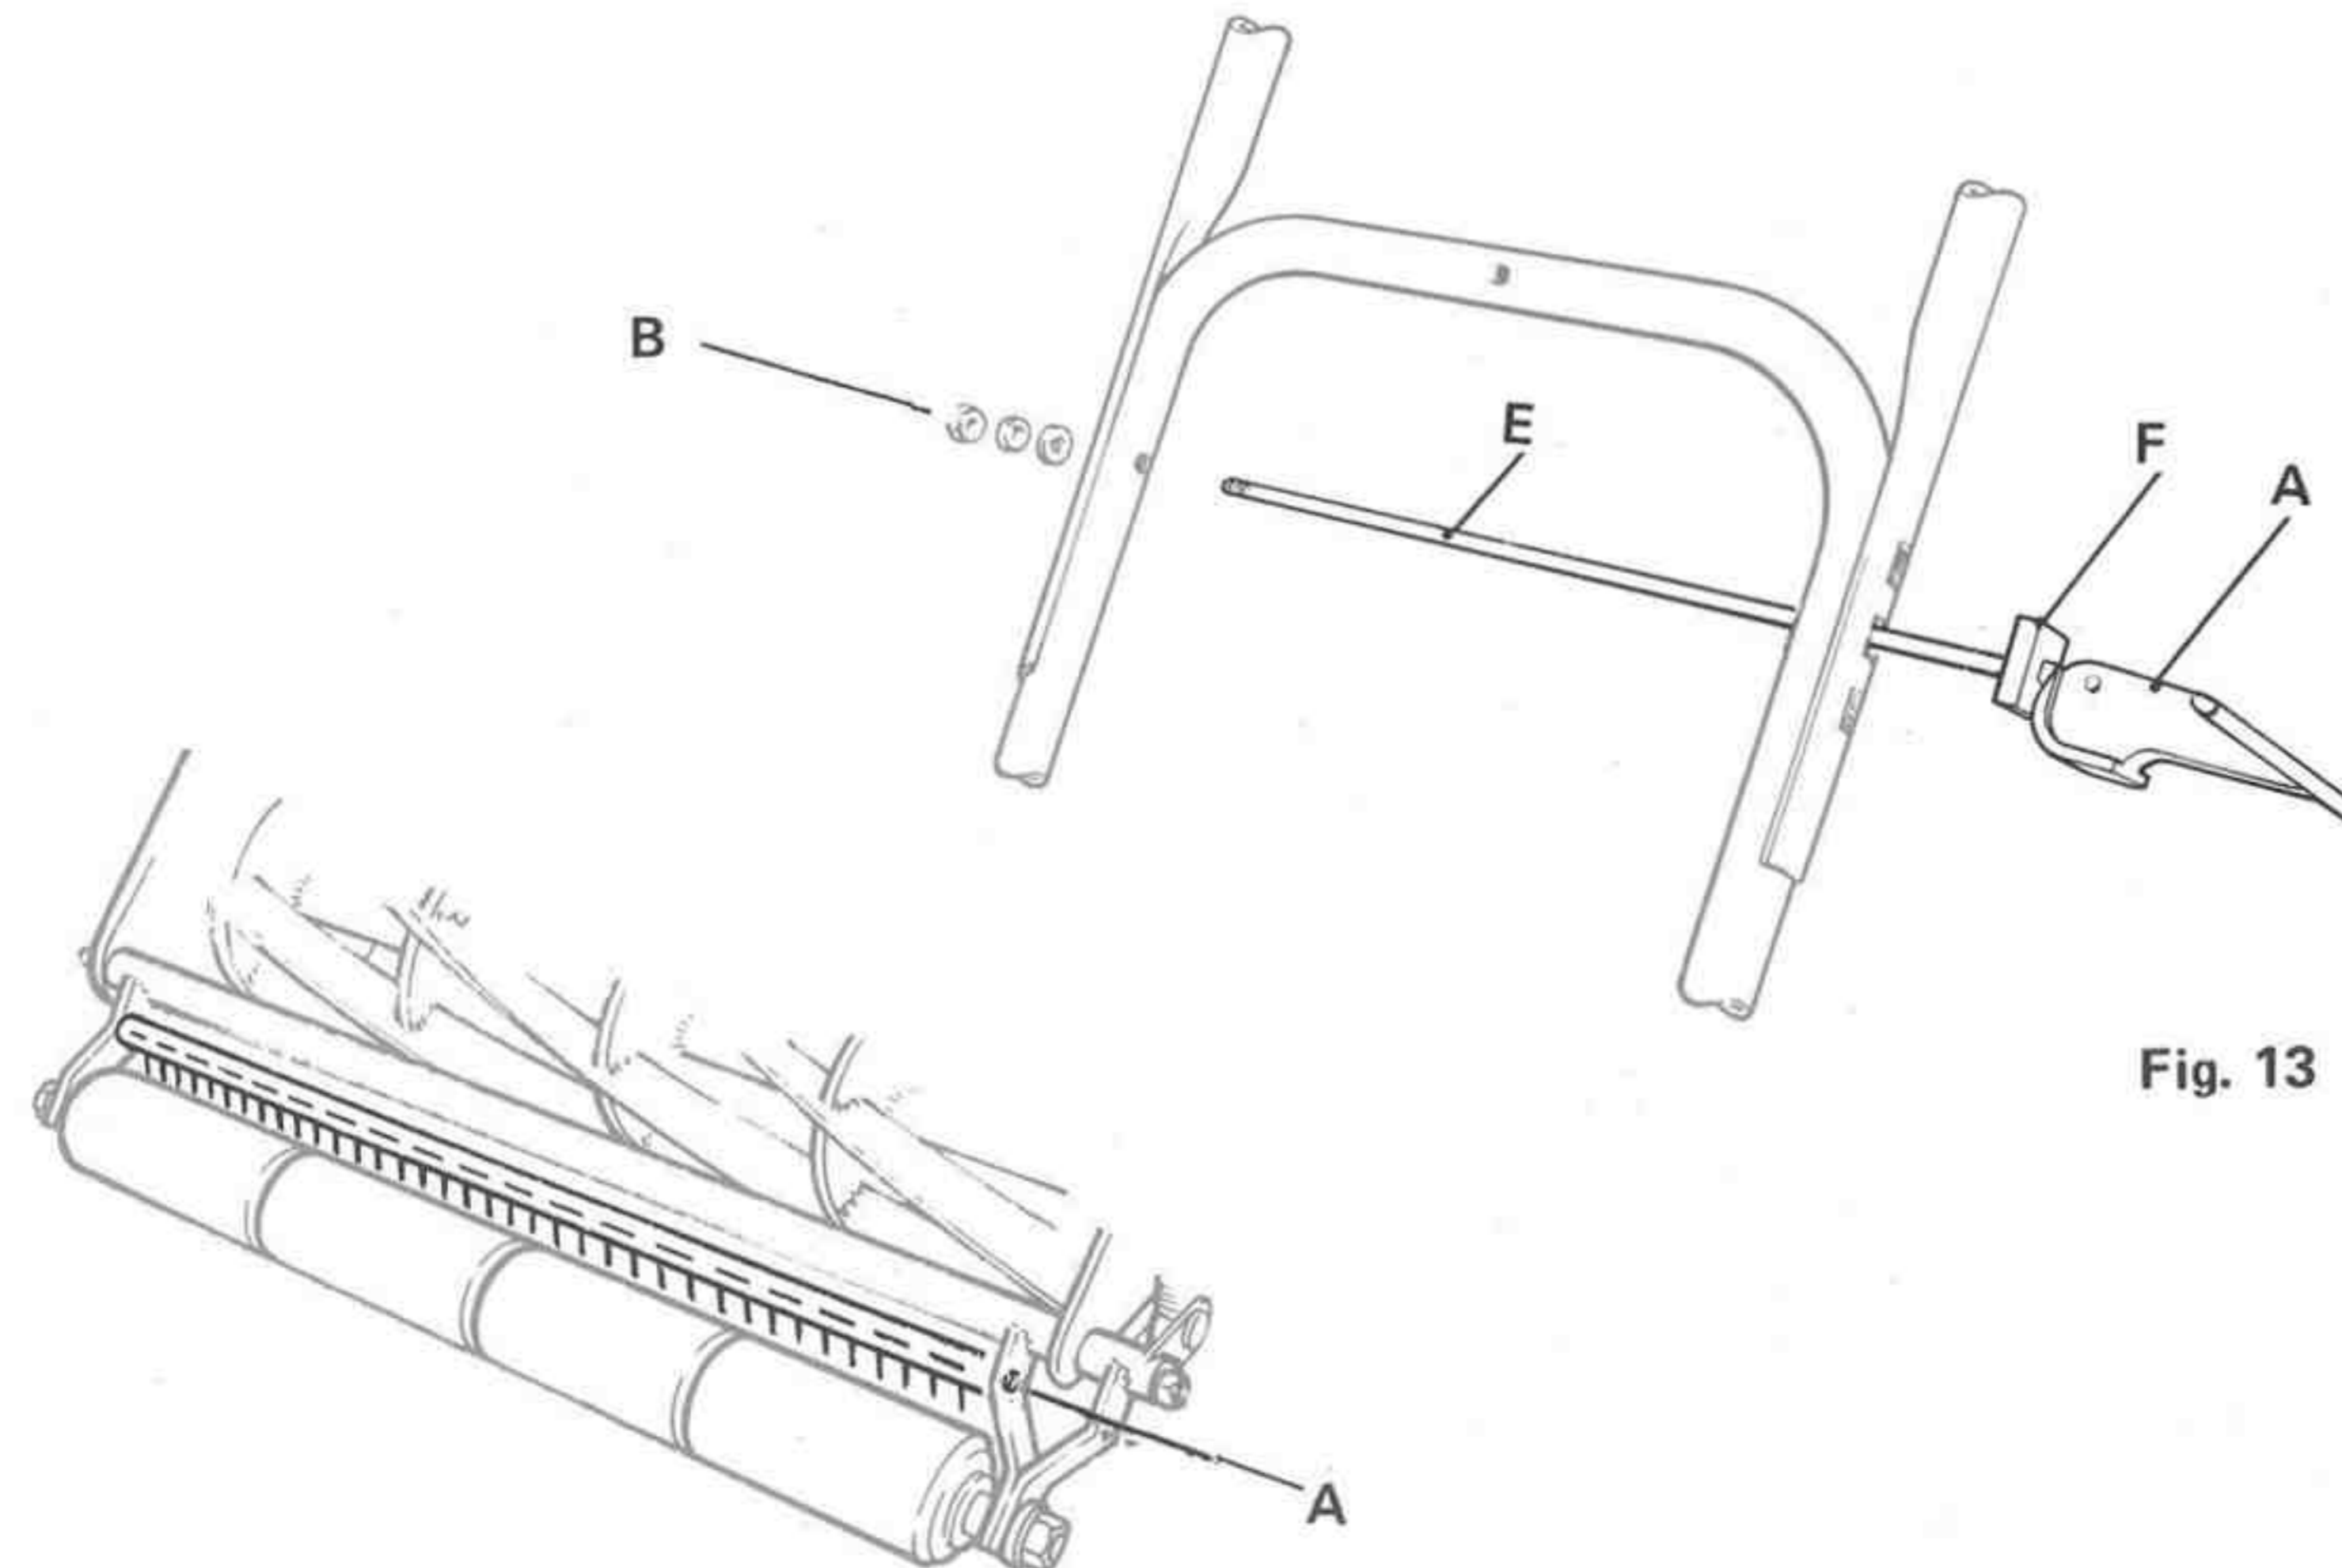

Fig. 13
- 1 Release the locking lever (A Fig.13) and fold the handle forward.
- 2 Unscrew dome nut (B) and remove with washers.
- 3 Pull out cam rod (E) from the handle and petrol tank fixing lugs.
- 6 Return the handle top to normal and clamp down the locking lever (A).